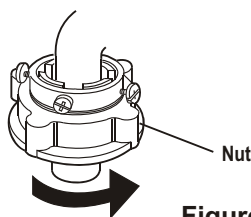

Figure 5
4. Take off the nameplate. Twist the fastening nut as per the indication of the figure to seal up the outlet end surface of the faucet. See to Figure 5.